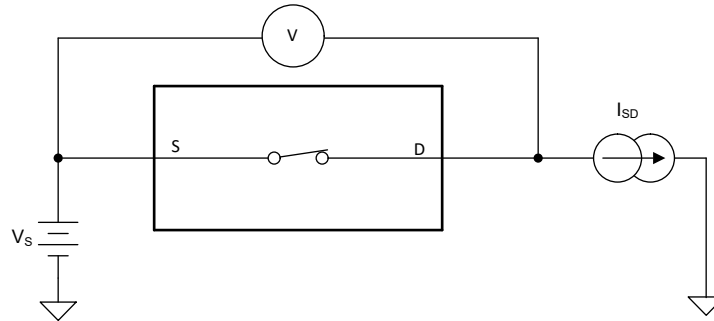

Figure 6-1. On-Resistance Measurement Setup
The On-Resistance of a device is the ohmic resistance between the source (Sx) and drain (Dx) pins of the device. The On-Resistance varies with input voltage and supply voltage. The symbol  $R_{ON}$  is used to denote On-Resistance. Figure 6-1 shows the measurement setup used to measure  $R_{ON}$ . Voltage (V) and current ( $I_{SD}$ ) are measured using this setup, and  $R_{ON}$  is computed with  $R_{ON} = V / I_{SD}$ .